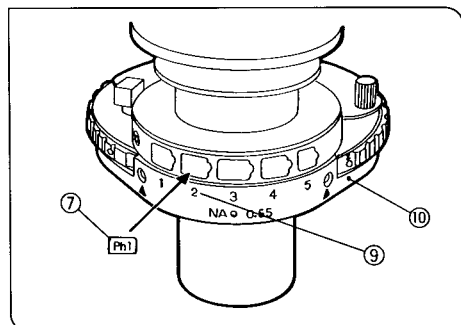

Fig. 24
6. Attach the index sticker (7) which comes with the insert at the index number (9) position that corresponds to the number (8) into which the turret insert was placed. (Figs. 24, 25)